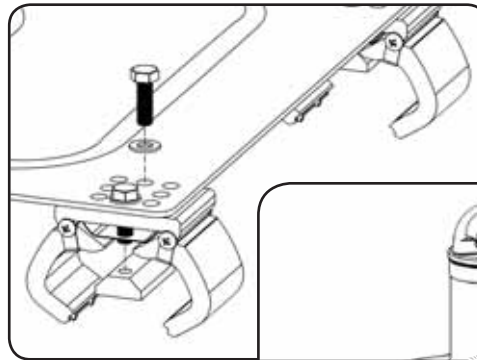

Fig. 4a
1. Once standing seam spacing has been determined, attach one clamp assembly to each of the four corners of the base as shown in Fig. 4a. Install each bolt completely through the washer and base mounting hole and into the corresponding hole in the clamp assembly bar. Do not tighten until the base is set on the standing seam roof.